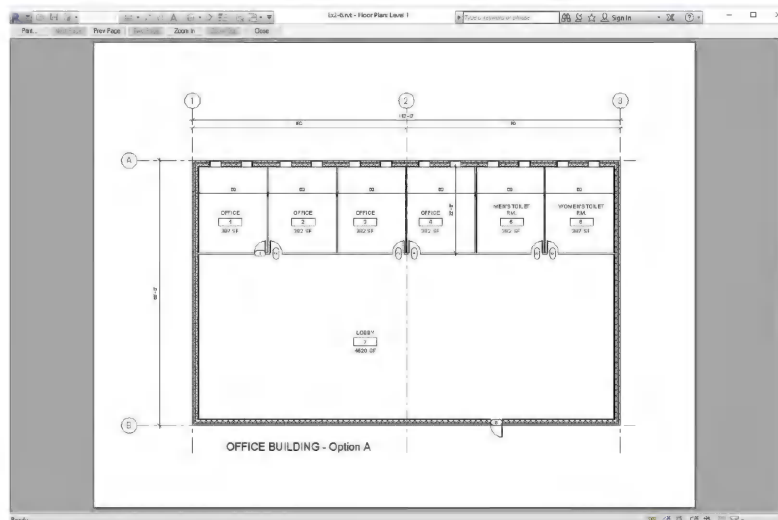

FIGURE 2-6.3 Print Preview
7. Click the **Preview** button in the lower left corner. This will save paper and time by verifying the drawing will be correctly positioned on the page (Figure 2-6.3).